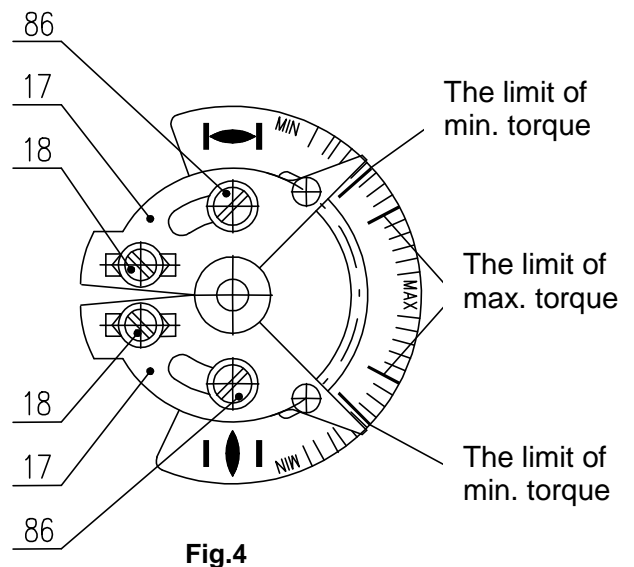
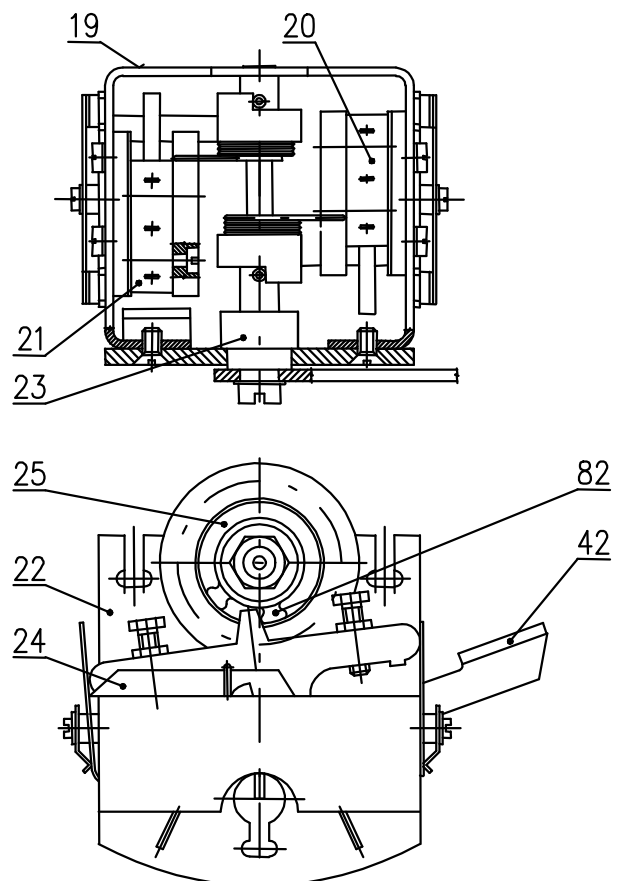

Fig.4
Fig.5
Check of torque switches (Fig.4,5). When the actuator moves towards "close" and at torque switches connection to "torque switching-off" should be contacts of switch S2 switched over by pressing of disconnecting bell (24)(Fig.5) of relevant switch. If the connection is properly performed, the actuator must stop. When the torque switches are connected for "signalization" only, signalization on control box panel will be activated.
4.1 The torque unit adjustment (Fig. 4 and 5)
It is only possible to set up the switching – off torque using the torque measuring equipment and only within the particular range with application of rough adjustment (17) and soft adjustment (18), Figure 4, according to the Version Table.
It is only possible to readjust the electric actuator using the segments (17), Fig. 4, within the marked MIN - MAX limit on the torque wrench and within the particular electric actuator torque range.
Torque unit (Fig. 4 and 5) is composed of three functional sub-units:
- torque disk (**Fig. 4**)
- torque unit (**Fig. 5**)
- locking mechanism (82) (**Fig. 5**)
Torque disk (Fig. 4) is assembled on torque shaft (45) discharged from power transmission (**Fig.2**). Steer angle of torque disk is proportional to torque moment of output shaft (3) of electric actuator. Its magnitude can be adjusted by segments (17) and by shifting of backstops (18). Achieved torque moment value is from torque disk transferred on torque unit (9) by means of torque lever (42) (**Fig.5**).
Torque unit (Fig.5) consists of a carrier, on which are displaced switches S1 (20) and S2 (21). On the shaft (23) are mounted disconnecting levers (24), keeping switches pressed by spring tensions until a moment when the shaft is turned out of the mesh of torque disconnection.
Locking mechanism (82) (Fig.5) provides locking of torque disconnection usually to 1 or 2 turns after reversing of electric actuator. After elapsing of adjusted revolution will torque unit acquire its original function.